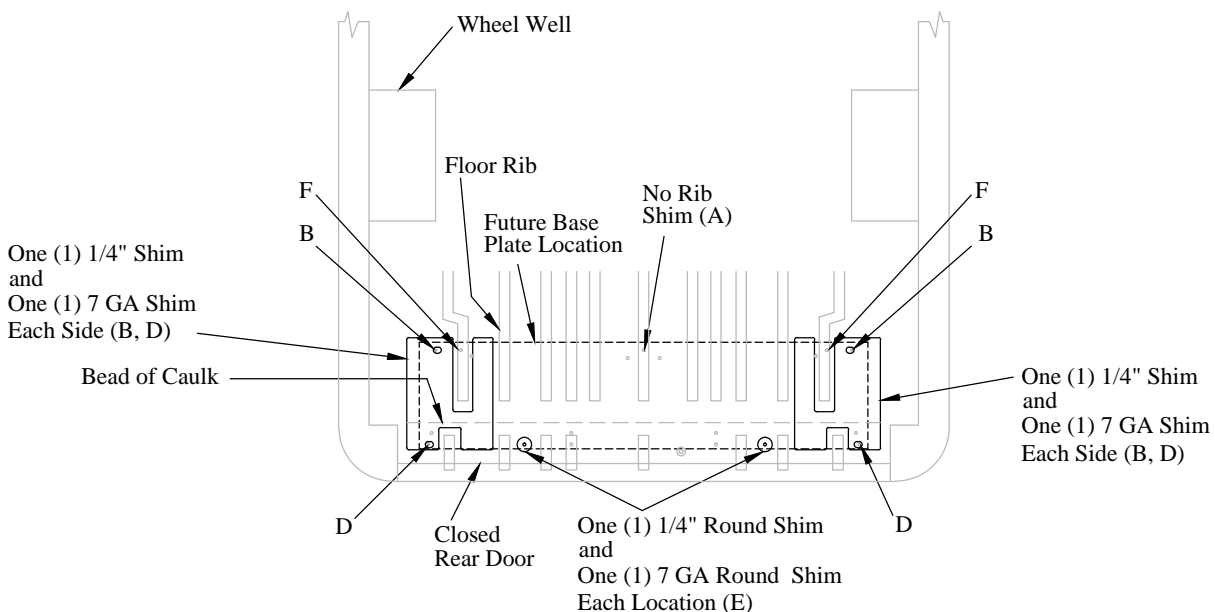

Figure 7: Rib shim locations (top view).
**1. Position** the supplied rib shims in the spaces between the ribs at the "B" and "D" locations (Figure 7).
9. **Position** the supplied round shims at each "E" location (Figure 7).